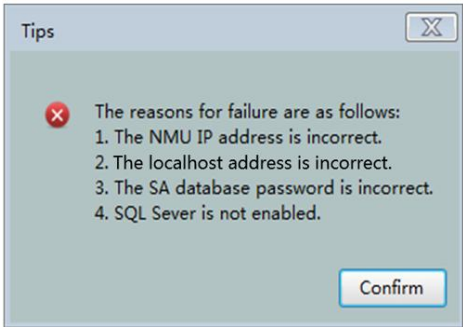

Fig.2.7 Tips
- 3. If an error occurs during the database connection operation, the following interface will pop up (see Fig.2.7):